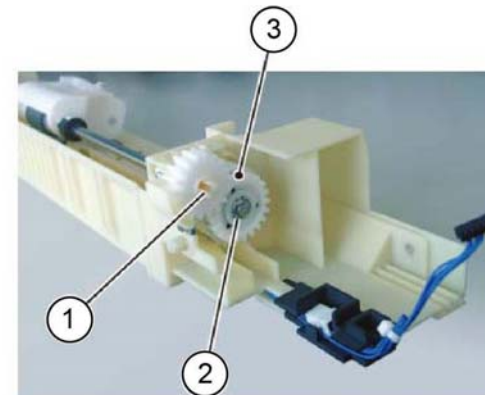

Figure 5 Feed clutch removal
6. Remove the bypass tray feed clutch, Figure 5:
- Release the hook, then remove the gear (1).
- Remove the E-clip (2).
- Remove the bypass tray feed clutch from the shaft (3).